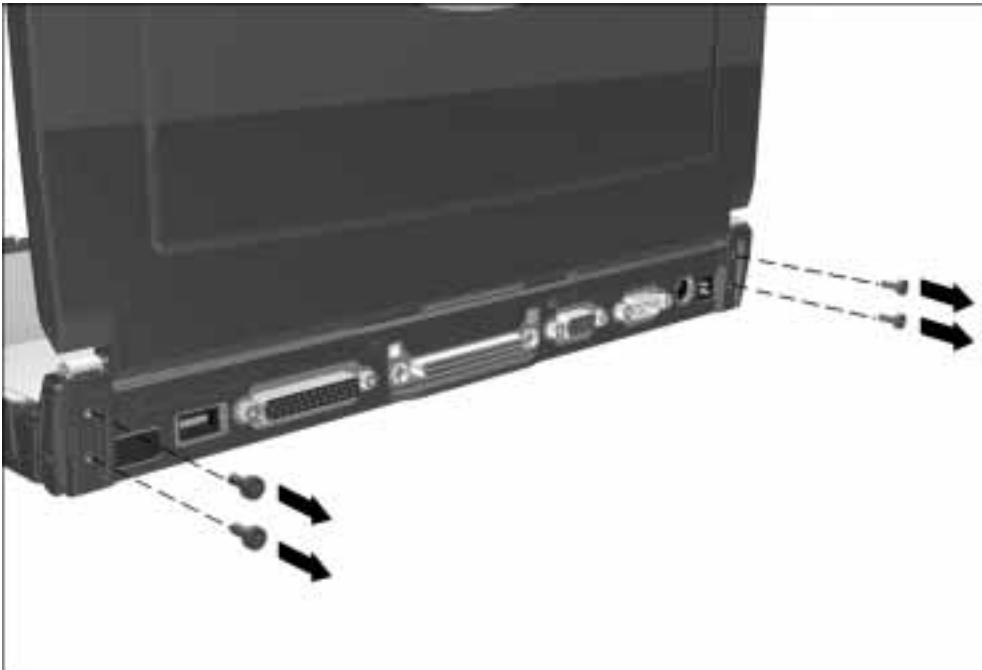

Figure 5-33. *Removing the Display Assembly Screws*
4. Remove the four screws that secure the display assembly to the base assembly (Figure 5-33).